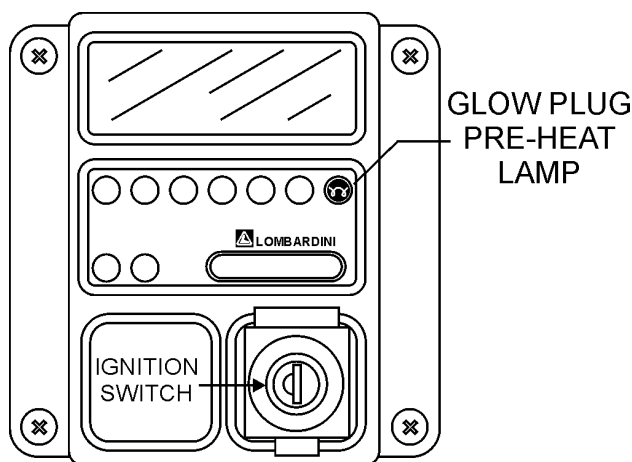

Figure 16. Lombardini/Deutz Ignition Switch
2. Insert the ignition key into the ignition switch (Figure 16). Turn the ignition key clockwise one click to the **ON** position. The pre-heat indicator lamp will be lit, wait for this indicator lamp to go **OFF**. When the lamp goes **OFF** this indicates that the glow plugs have been pre-heated and the engine can now be started.